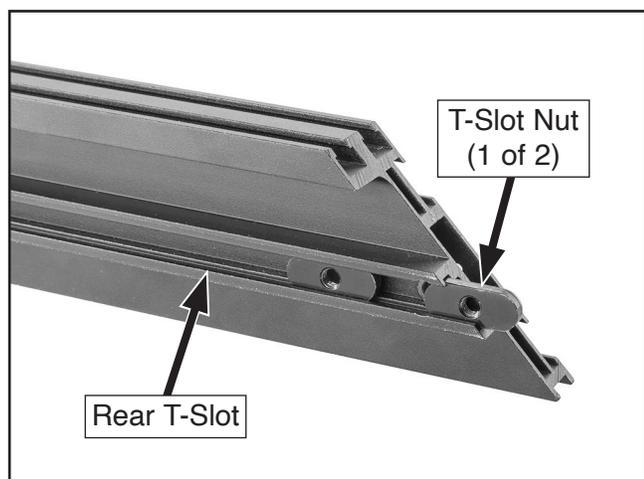

Figure 5. T-slot nuts in rear T-slot of fence.
- Slide (2) M5-.8 T-slot nuts into T-slot on rear side of fence (see **Figure 5**).